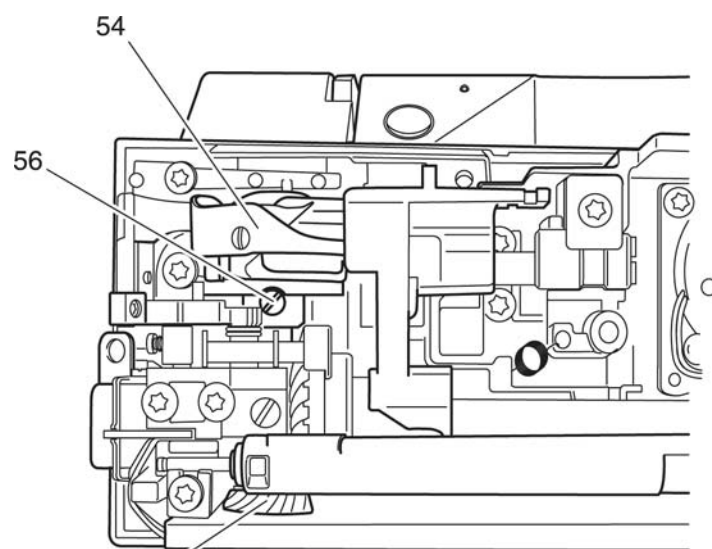

Fig. 15b
- Loosen the two screws 56 slightly until the hook 54 can be turned slowly (fig. 15b).